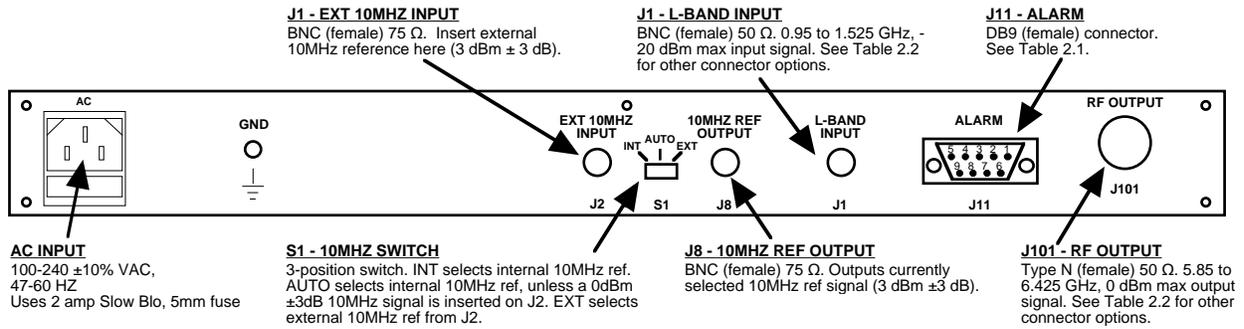

FIGURE 2.1 2115-58 Rear Panel I/O's
2.2 Rear Panel Input/Output Signals - Figure 2.1 shows the input and output connectors on the rear panel.
1. Connect a -40 dBm to -20 dBm signal to L-BAND INPUT, J1 (Figure 2.1).
5. Select either INT (for internal 10MHz ref), AUTO (for internal 10MHz ref UNLESS a external 10MHz, 3 dBm signal is connected to J2), or EXT (for external 10MHz, 3 dBm ref that is inserted at J2) on rear panel switch S1 (Figure 2.1).
7. Check that a 10MHz, 3 dBm \pm 3 dB signal is present at the 10MHZ REF OUTPUT (J8) (Figure 2.1).